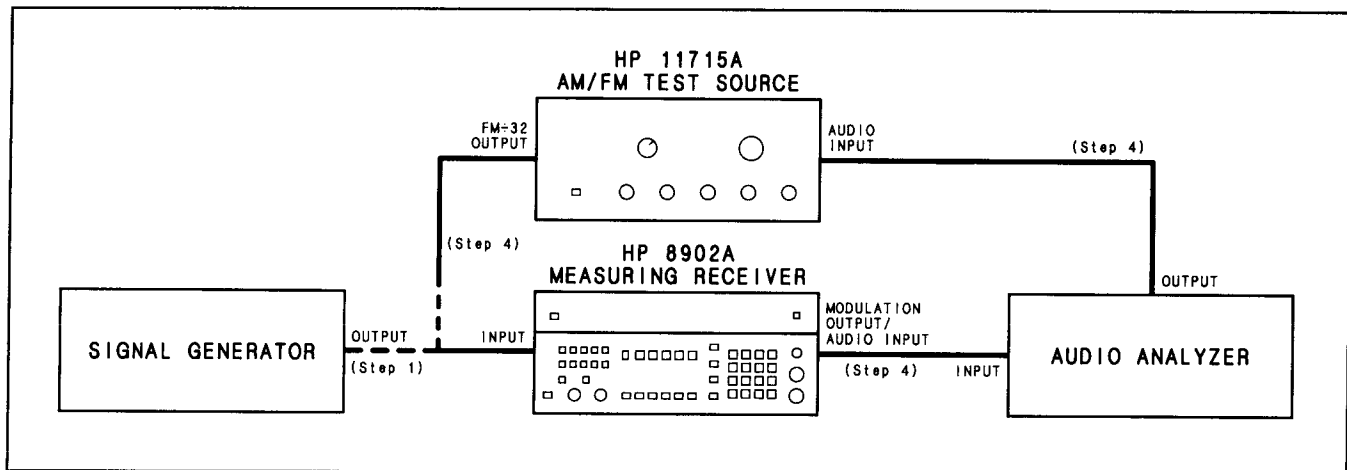

Figure 5-7. FM Distortion and Incidental AM—455 kHz IF Adjustment Test Setup
1. Set the signal generator to 2.45 MHz at 0 dBm with 10 kHz peak FM deviation at a 1 kHz rate. Connect its RF output to the Measuring Receiver's INPUT as shown in Figure 5-7.
4. Disconnect the signal generator and connect the remaining equipment as shown in Figure 5-7.